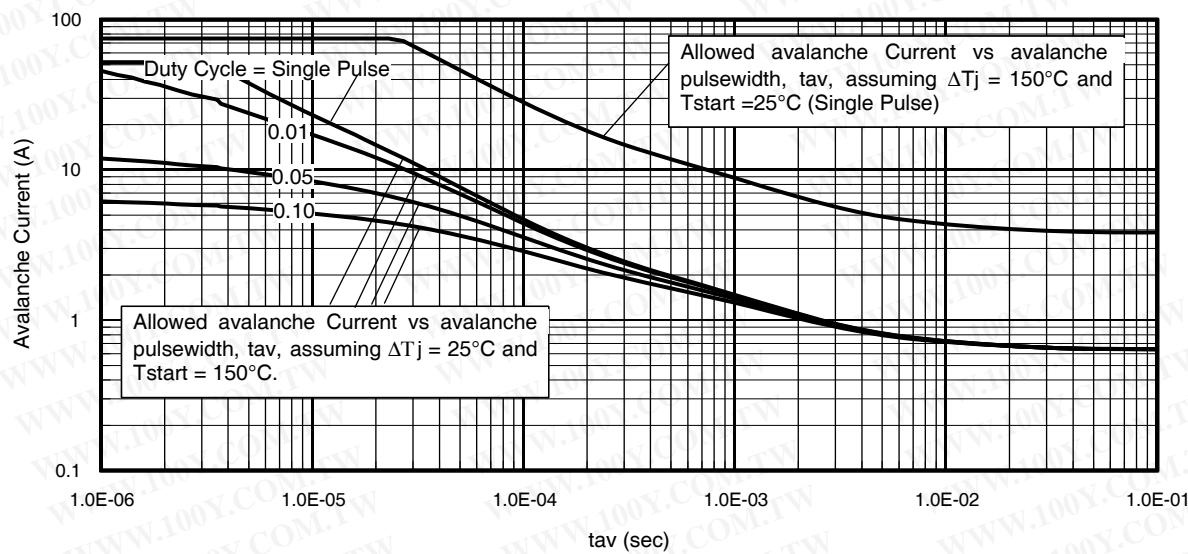

Fig 14. Typical Avalanche Current vs.Pulsewidth
Notes on Repetitive Avalanche Curves , Figures 14, 15: (For further info, see AN-1005 at www.irf.com)
7. ΔT = Allowable rise in junction temperature, not to exceed T_{jmax} (assumed as 25°C in Figure 14).